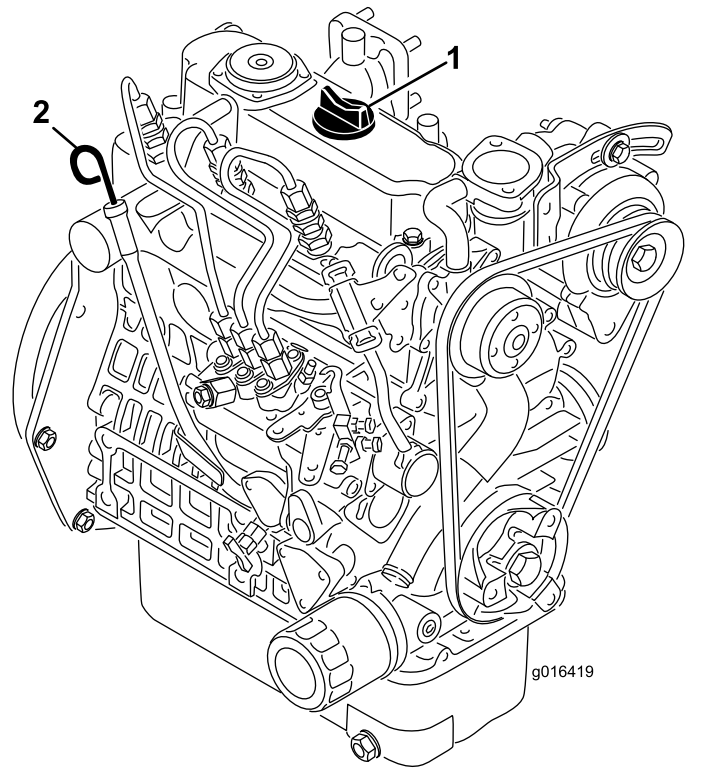

Figure 22
2. Remove the dipstick and wipe it with a clean rag (Figure 22). Push the dipstick into the tube and make sure that it is seated fully. Remove the dipstick from the tube and check the level of oil. If the oil level is low, remove the filler cap from the valve cover and **slowly** add enough oil to raise the level to the Full mark on the dipstick.